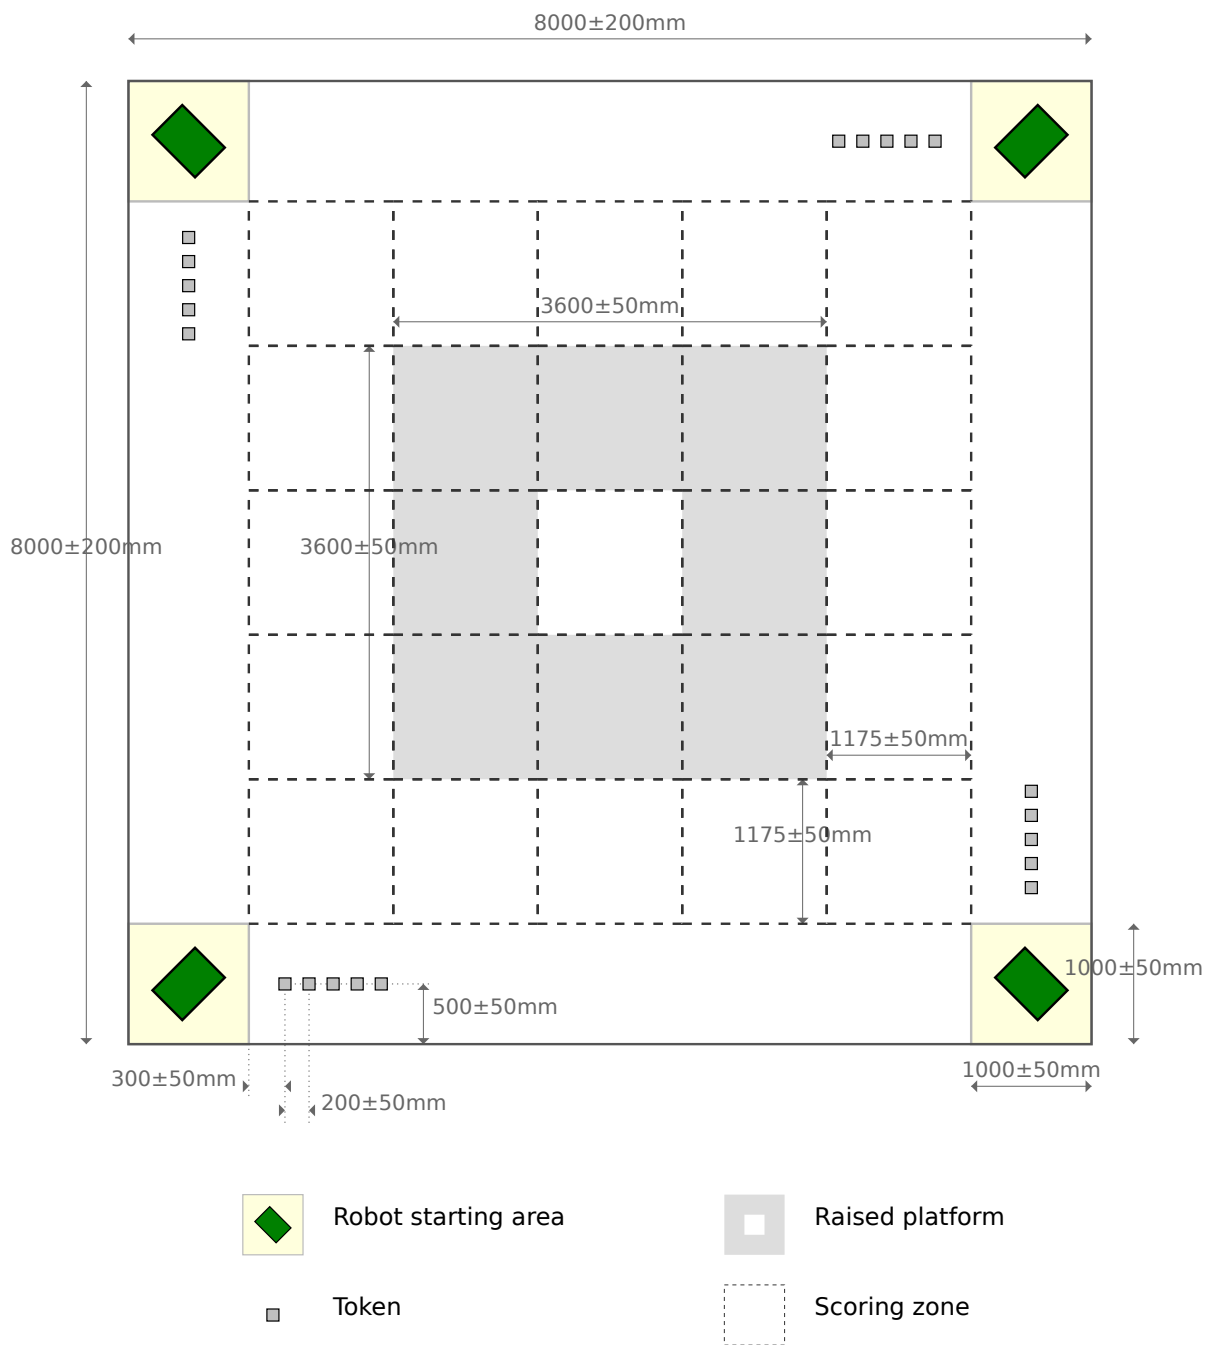

Figure 2: A bird's-eye view of the arena. All dimensions are in millimetres.
3.3.1 The match arena floor, overall, is an  $8\text{m} \times 8\text{m}$  square, as shown in figure 2. The tolerance of these two dimensions is  $\pm 0.2\text{m}$ .
- 3.4.1 There are 25 zones in the arena, in a 5 by 5 grid centred within the arena and aligned with its axes. Each zone is  $1175mm \pm 50mm$  by  $1175mm \pm 50mm$ . The arrangement and dimensions of these zones can be seen in figure 2.
- 3.5.2 There will be 40 tokens in the arena: 10 associated with each starting area. These will be arranged as shown in figure 2 at the start of a match.